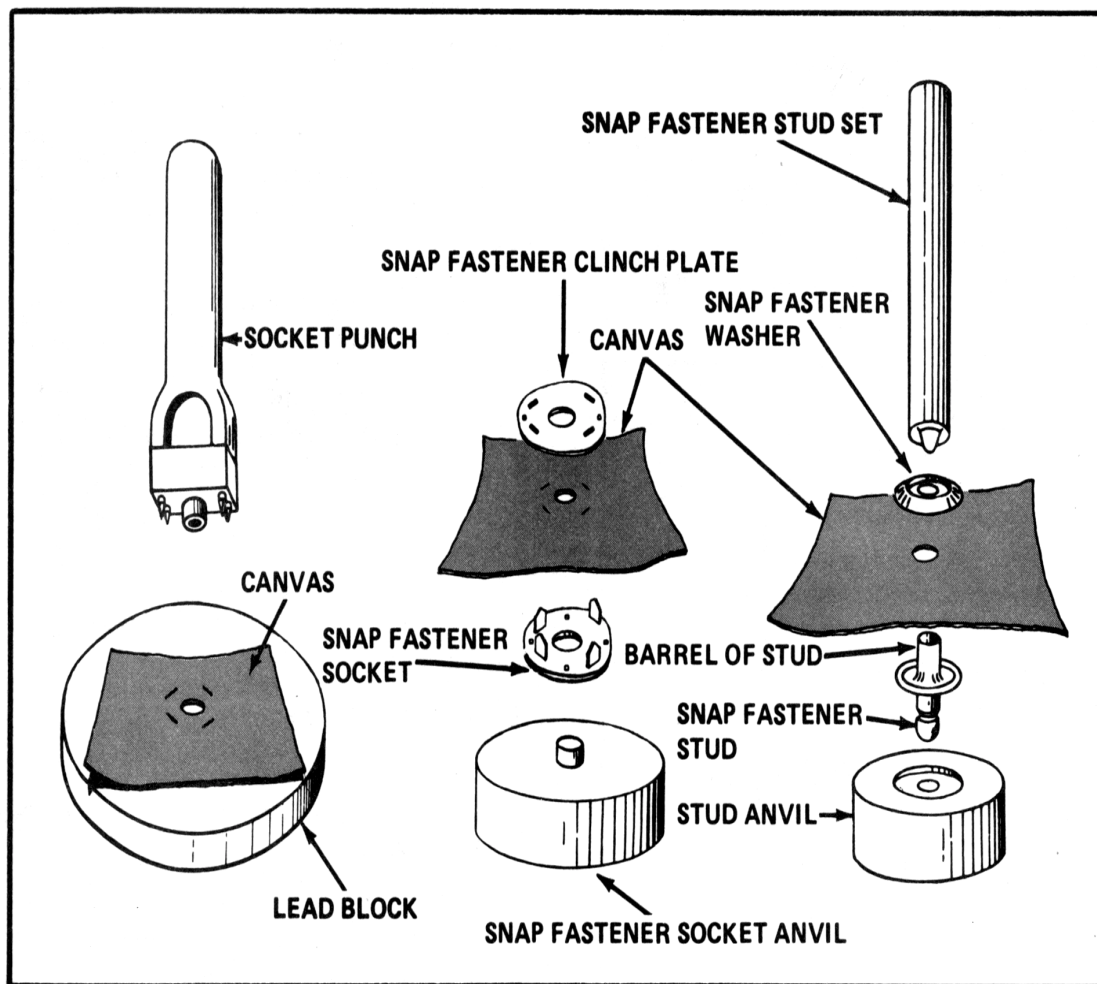

Figure 12-9. Replacing a type 1 snap fastener
a. **Style 1 Snap Fastener.** A style 1 snap fastener has two sections, a female half and a male half. The female half has two parts, a socket and a clinch plate. The male half also has two parts, a stud and a washer. The stud is available in two sizes, single and double. The double stud is twice as long as the single stud and can hold an additional layer of canvas. To install a style 1 snap fastener (Figure 12-9)--
(1) Obtain a style 1 snap fastener, chalk, socket punch, socket anvil, hole punch, stud set, stud anvil, rawhide mallet, and lead block.
(2) Remove the old snap fastener, and patch or replace the canvas if necessary.
(3) Mark with chalk the exact position of the hole for the female half of the snap fastener.
(4) Place the canvas over the lead block so that the chalk mark is centered on the block.
(5) Center the socket punch over the chalk mark.
(6) Hit the socket punch with a rawhide mallet to make slots for the socket prongs and a center hole.
(7) Insert the socket prongs into the slits through the underside of the canvas.
- (8) Place the clinch plate over the socket prongs.
- (9) Place the canvas and socket, prongs up, on the socket anvil.
- (10) Bend the socket prongs toward the center with the top of the socket punch until the prongs are flat against the clinch plate and the plate and socket are securely clinched to the canvas.